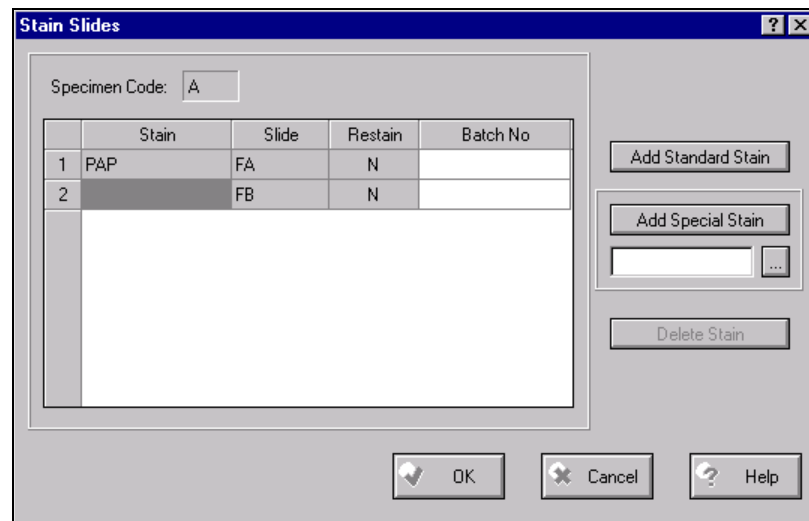

Figure 1-21. Stain Slides Window
The Stains buttons allow you to add or delete standard and special stains. These buttons become active when any value greater than zero (0) is entered in the Membrane Filters, Cytocentrifuges, Smears, Monolayers or Touch Prep fields. Clicking these buttons displays the Stain Slides window (Figure 1-21), which lists all stain slides for the current specimen. When values in any of the above mentioned fields are modified, the grid in the Stain Slides window is updated.